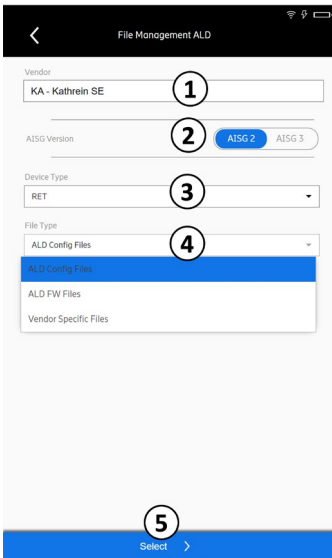

Fig. 34: System configuration: File Management ALD, ALD Config Files
1. After all the selections in 8.6.4 are done, tap ⑤ in Fig. 34.